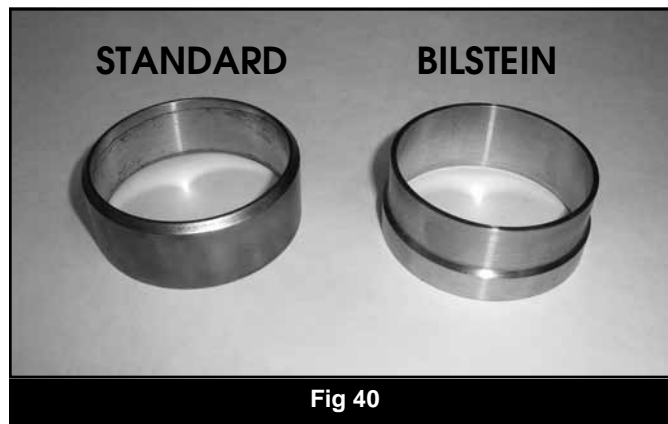

Fig 40
53. Locate the 2 sets of provided preload spacer rings (02207/02208). Only one set will be used depending on the type of factory strut the vehicle is equipped with (Bilstein - yellow or standard - black). The Bilstein preload rings have a step machined into the outer surface while the standard rings are smooth (Fig 40). Identify the correct preload rings for your application and discard the other set.